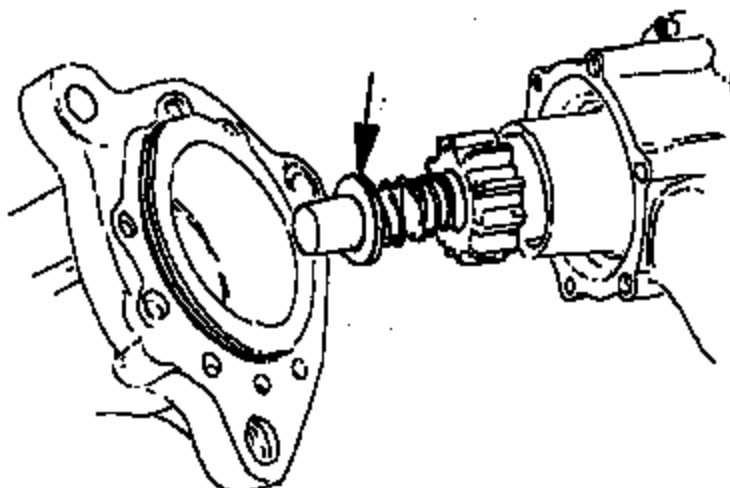

Figure 2 - Verify Washer Is on the Shaft (Arrow)
5. Remove the nose cone housing. Verify the washer is still on the shaft (Figure 2).